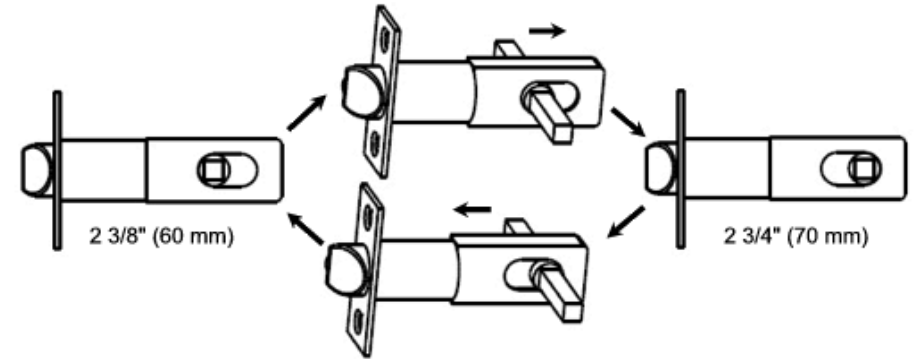

fig. 4
- 3.1 Latch is adjustable, you may set the latch to either 2 3/8" (60 mm) or 2 3/4" (70 mm) backset (see fig.4).